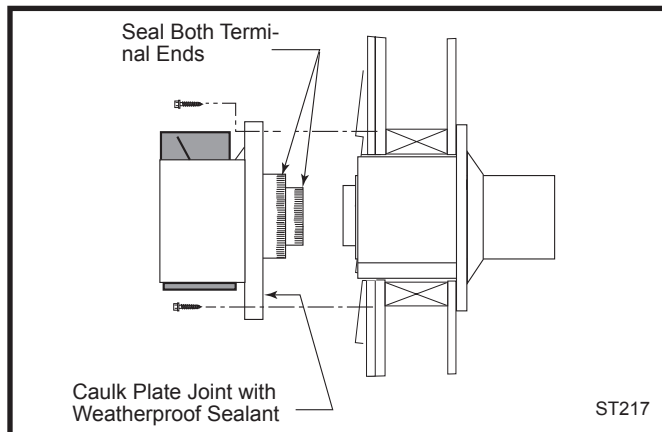

Fig. 29 Install the vent terminal.
10. For both CFM and DuraVent Systems: Install the vent terminal. (Fig. 29) Apply high temperature sealant one inch from the ends of the inner and outer collars. Guide the inner and outer vent termination collars into the adjacent pipes. Double check that the vent pipes overlap the collars by 2". Fasten the termination to the wall with the screws provided, and caulk the joint with weatherproof sealant.